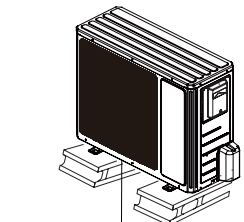

Fig. 18
- (1) Take sufficient protective measures when installing the outdoor unit.
- (2) Make sure the support can withstand at least four times the unit weight.
- (3) The outdoor unit should be installed at least 3cm above the floor in order to install drain joint.(As show in Fig.18)
- (4) For the unit with cooling capacity of 2300W~5000W, 6 expansion screws are needed; for the unit with cooling capacity of 6000W~8000W, 8 expansion screws are needed; for the unit with cooling capacity of 10000W~16000W, 10 expansion screws are needed.